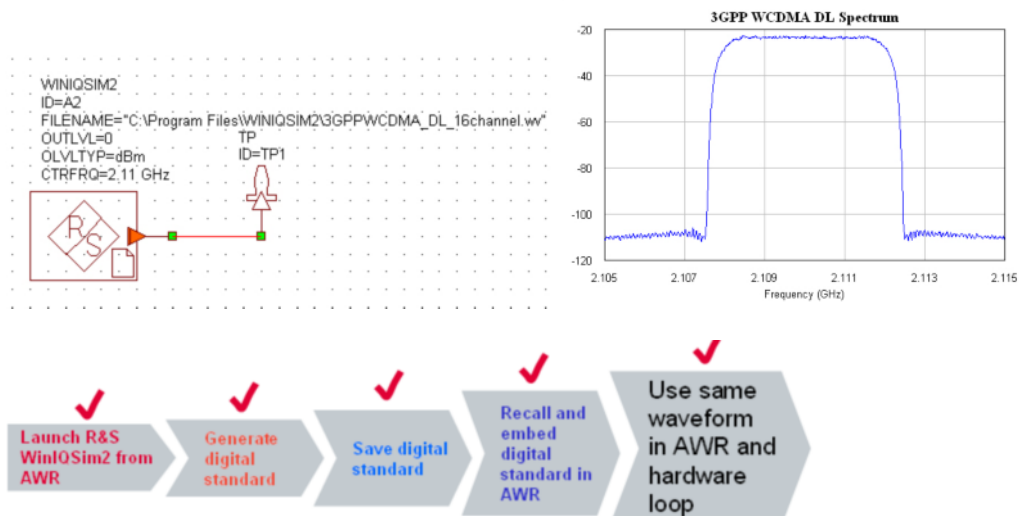

Figure 26: Setting a test point and plotting out the spectrum graph
Drop a testpoint to capture the signal data. At the taskbar, select to analyze and then to run/stop the simulator. A 3GPP WCDMA RF Spectrum with occupied bandwidth of less than 5MHz is shown in Figure 26. Besides RF Spectrum, other data such as In- (I) and Quadrature- (Q) phase can be extracted and plotted. This undistorted signal can be used as a reference signal to correlate it with a distorted real-world signal.